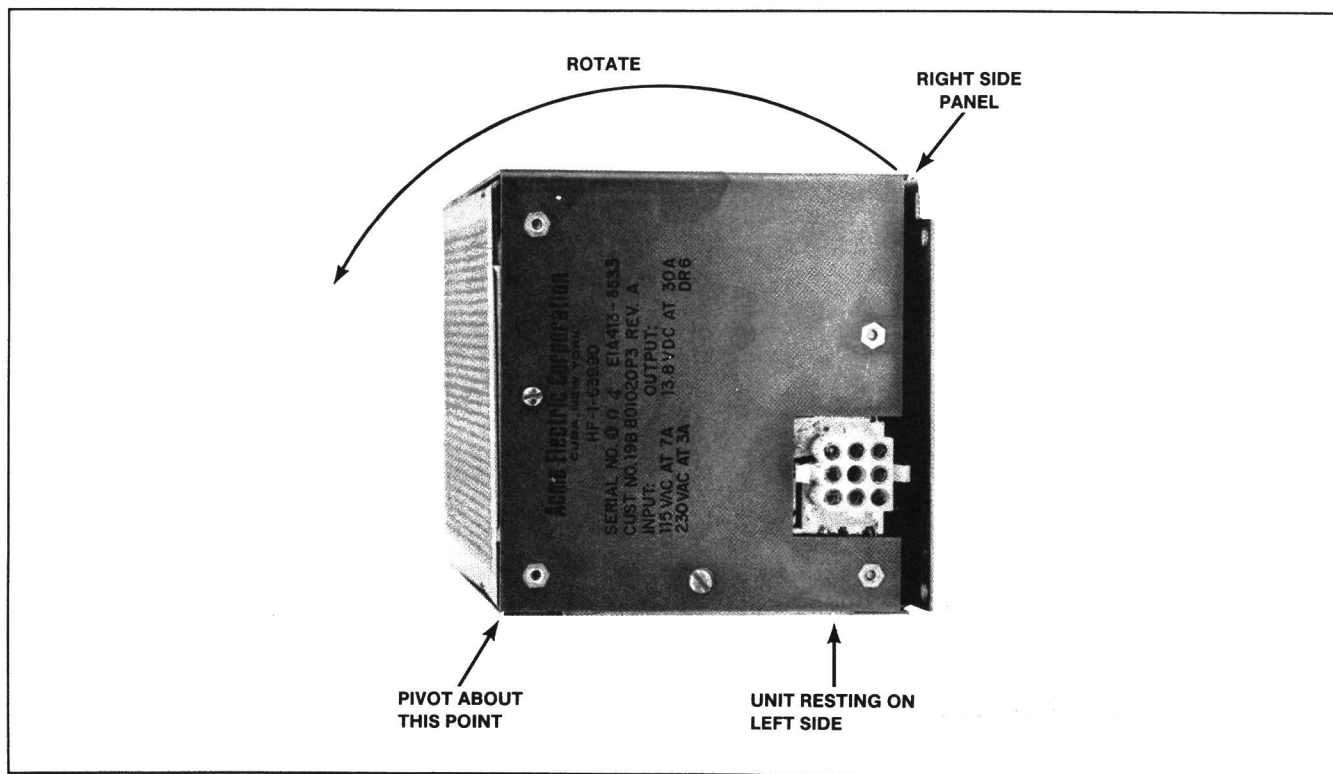

Figure 5 - Disassembly, Before
4. Place unit so that it rests on the left side panel. Rotate the front and right side panel assembly 180 degrees counter-clockwise so that it rests on the right side panel (see Figures 5 and 6).